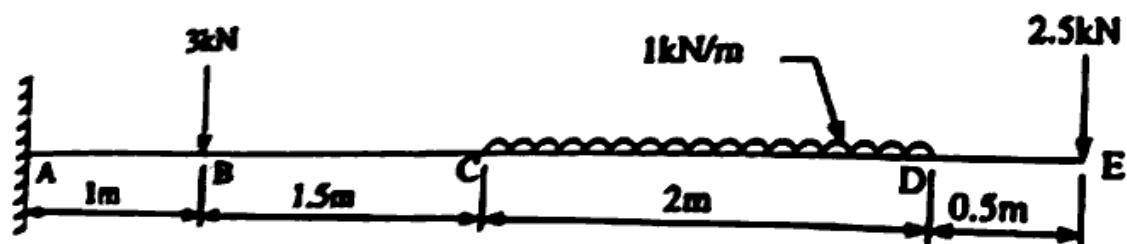

Fig.1
3. (a) Draw shear force and bending moment diagrams for the cantilever shown in fig.1.